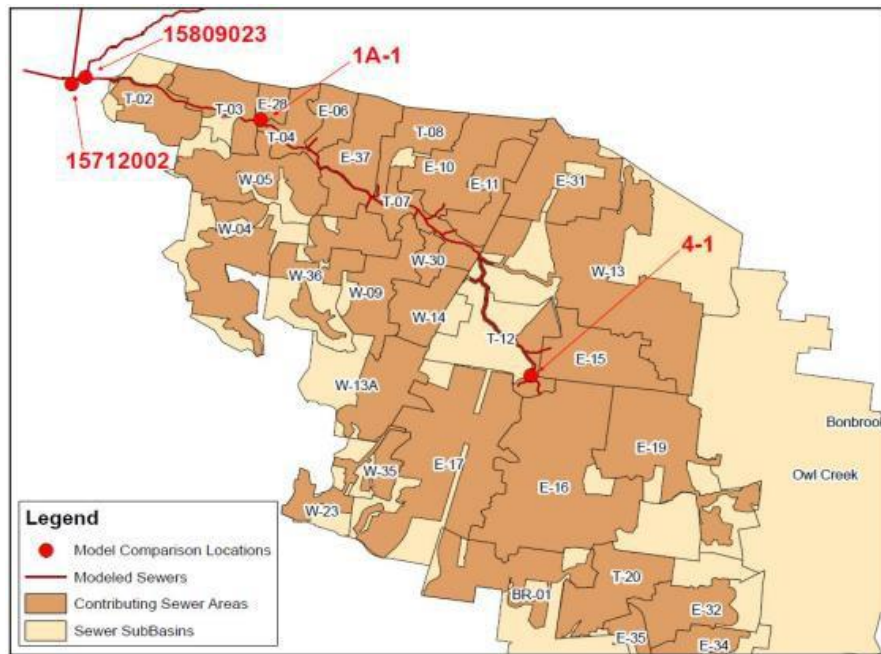

Figure 8: Example of a hydraulic model for the interceptor sewers in red.
- Hydraulic model (see Figure 8),